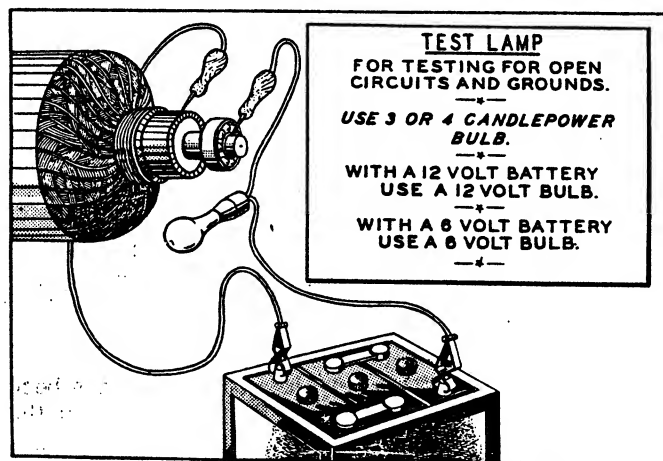

FIG.45- CONTINUITY TEST LAMP.
**TESTING FIELD WINDINGS.** - Use a test lamp set (Fig 45 ) for all tests except a short circuit. The field coils of all ac plants are saturated shunt wound, the Remote Start and Dual Purpose plants having a series field winding in addition for cranking and battery charging purposes. The field coils of the Battery Charging plants are of the shunt wound type with interpoles and a series field. There are actually three separate windings to test. The 115 volt and 230 volt dc plants are of the compound wound type with interpoles and all windings are connected. When testing a field coil assembly, disconnect all of its external leads from their terminals. Tag and mark each lead to assure proper connections when reassembling.